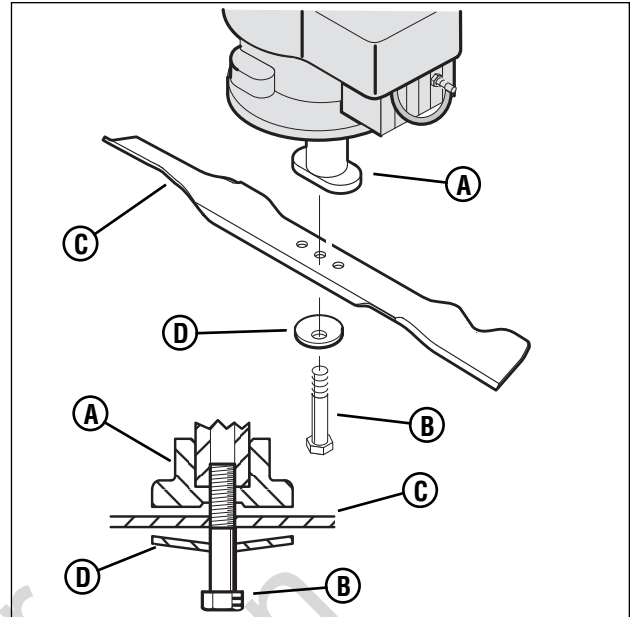

Figure 22: Removing the blade
Frequently check the blade for wear or damage such as cracks. Frequently check the bolt that holds the blade. Keep the bolt tight. If the blade hits an object, stop the engine. Disconnect the wire to the spark plug. Check the blade adapter (A, Figure 22) for damage. Check for a bent or damaged blade, a badly worn blade, or other damage. Before you operate the unit, damaged parts must be replaced with factory replacement parts. For safety, replace the blade every two years. Keep a sharp edge on the blade. A blade that is not sharp will cause the ends of the grass to become brown. Remove the blade as follows.
4. Remove the bolt (B, Figure 22) that holds the blade with a 9/16" (14mm) wrench.
5. Check the blade (C) according to the "Blade Service" instructions. Replace a badly worn or damaged blade with a factory replacement blade.
7. Fasten the blade with the original washer (D) and bolt. Make sure the outside rim of the Belleville washer is toward the blade.